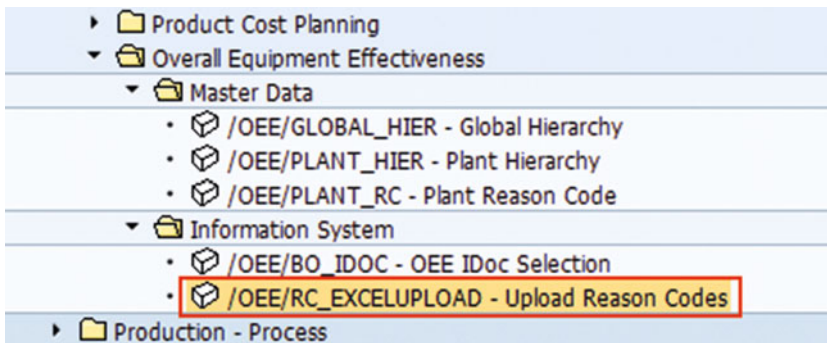

Figure 3-57. Configure reason code from Excel
1. From the main OEE menu, select Upload Reason Codes (refer to Figure 3-57).